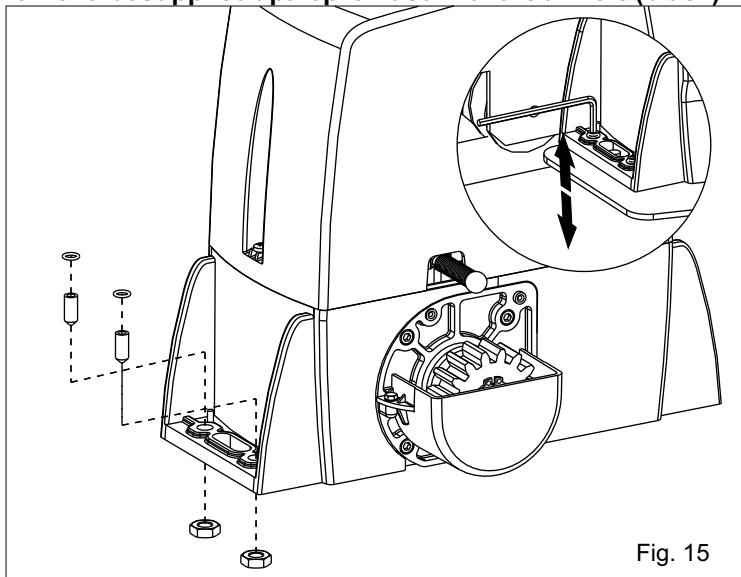

Fig. 15
6.1. Insert the 4 grains into the special holes, so that it is possible to adjust the motor reducer height on the plate (Fig. 15). **At the end of installation check if the 4 grub screws are well gripped on the foundation plate.**